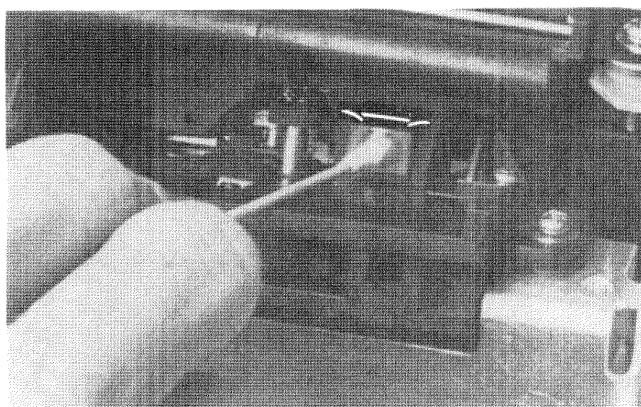

Figure 7-1. Cleaning the Tape Head
- b. Wipe the surface of the tape head in the left-and-right direction, not the up-and-down direction. (See figure 7-1.)